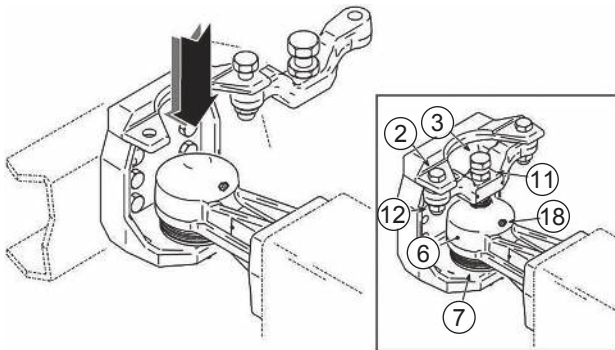

Figure 22
Lubricate the inside of the drawbar eye ball cup (6) directly through the grease nipple (18). (Figure 22)
Remove the rubber dust proof bellows protection cover (7). (Figure 22)
Loosen the adjustment screw (3) and the counter nut (11). (Figure 22)